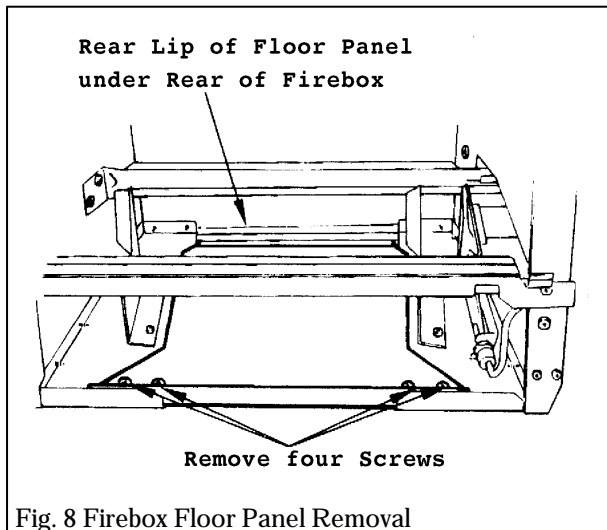

Fig. 8 Firebox Floor Panel Removal
9.1 To gain access to the appliance connection point, the centre panel in the firebox floor must be removed by unscrewing four screws and lifting it clear (see fig. 8).